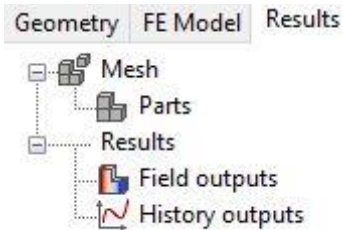

Figure 4: Results tab of the model tree
- 3) Results – post-processing (Figure 4).